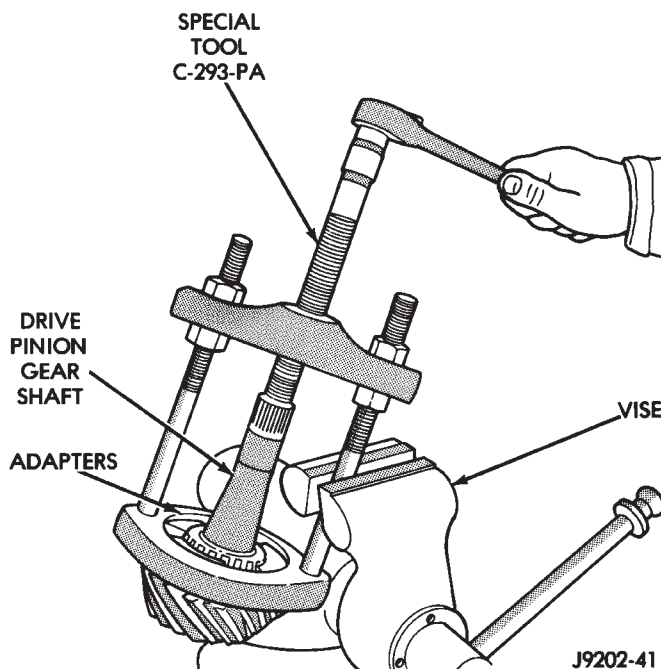

Fig. 42 Inner Bearing Removal
(12) Remove the rear bearing from the pinion with Puller/Press C-293-PA and Adapters C-293-42 (Fig. 42).